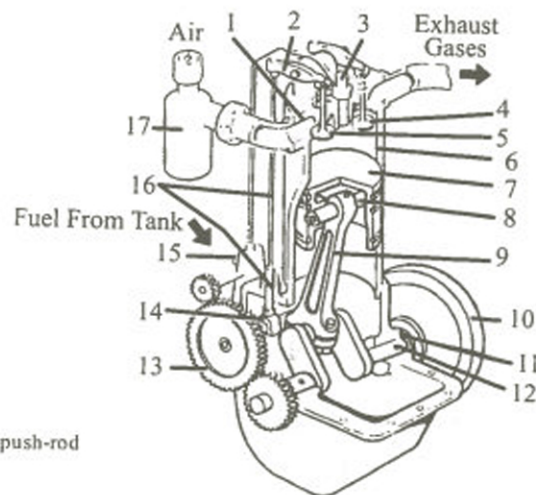

Figure 4-3. Schematic Diagram of a Single Cylinder Diesel Engine.
Look at the simplified Figure 4-3 and consider the operation of the diesel engine. Piston (7) is placed inside cylinder (6). The piston is attached to crankshaft (12) through the intermediary of connecting rod (9). If the piston is moved up and down in the cylinder, this up-and-down or reciprocating motion of the piston is changed into the rotary motion of the crankshaft by the connecting rod and the crank of the shaft. Flywheel (10) fastened to the